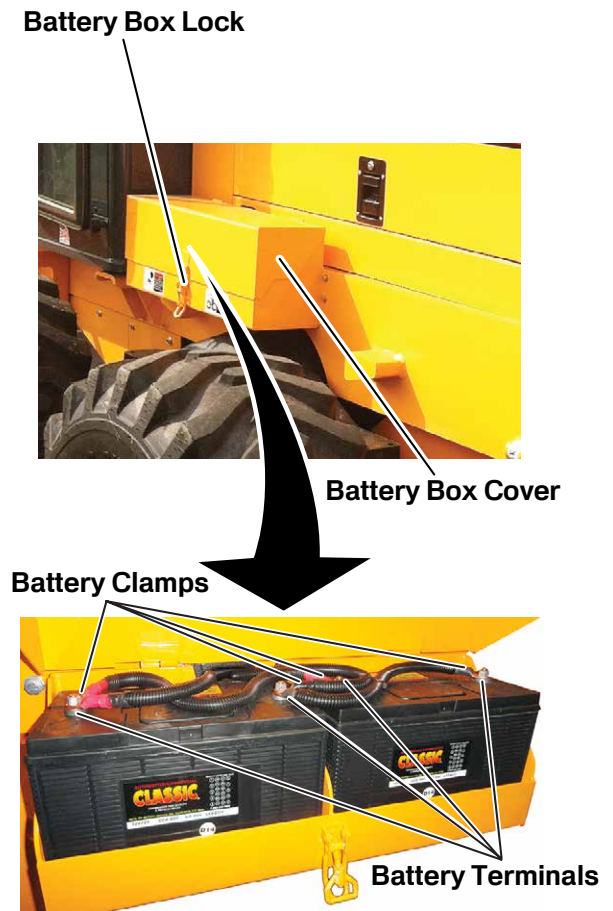

Figure 5-7. 12-Volt System
NOTICE When servicing the electrical system or welding on the grader, always turn the master disconnect switch (**Figure 5-7**) to the OFF position, disconnecting the ground from the batteries, to prevent damage to the grader's electrical system.
2. Unhook battery box locks on the battery compartment and remove cover (**Figure 5-7**).
3. Disconnect battery clamps (**Figure 5-7**) starting with the grounded (black) clamp first.
8. Install and tighten battery clamps (**Figure 5-7**), starting with positive (red) clamp first and grounded (black) clamp last.
9. Attach battery box cover (**Figure 5-7**) and hook battery box locks (**Figure 5-7**).
2. Unhook battery box locks and remove cover (Figure 5-7).